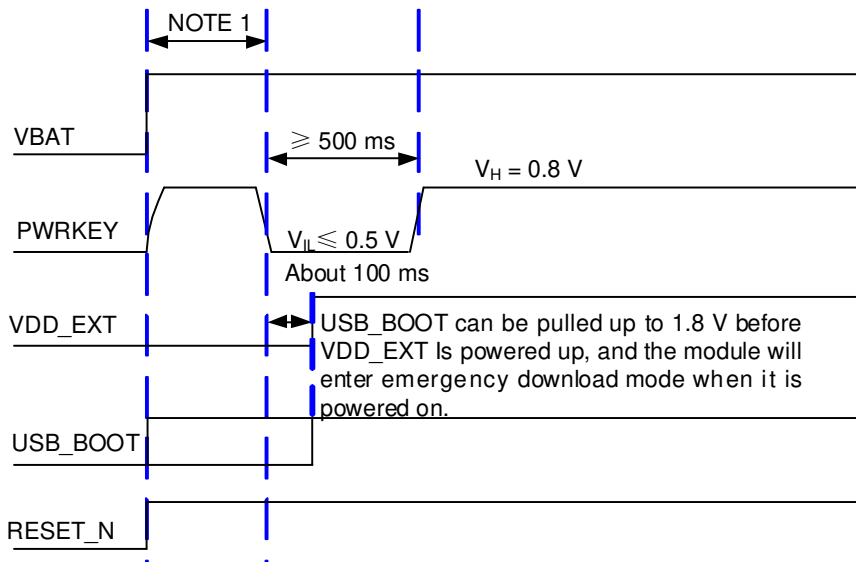

Figure 31: Timing Sequence for Entering Emergency Download Mode
2. When using MCU to control module to enter the emergency download mode, please follow the above timing sequence. It is not recommended to pull up USB_BOOT to 1.8 V before powering up VBAT. Connect the test points as shown in **Figure 31** can manually force the module to enter download mode.